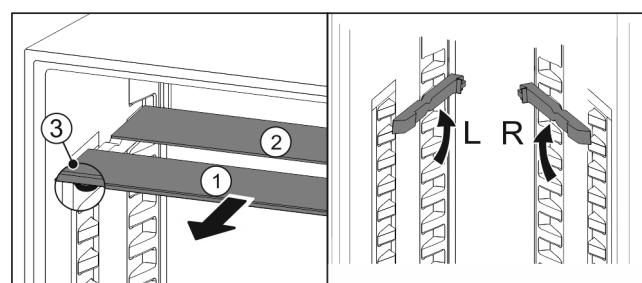

Fig. 129
- ▶ Pull the glass panels out Fig. 129 (1) from the front, one at a time.
- The glass panel *Fig. 129 (1)* and trim strip are at the front.
- The stops *Fig. 129 (3)* point down.